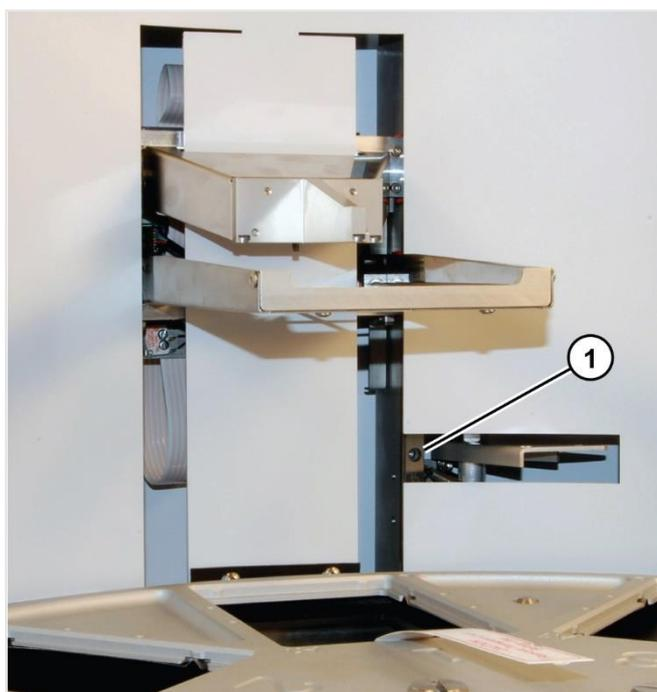

Figure 29. Location of the locking hole
2. Insert the transport lock screw of the tip comb holder with transport lock tag first by adjusting the screw into the lock position so that both the holes are opposite each other and aligned with the thread in the chassis (Figure 29).